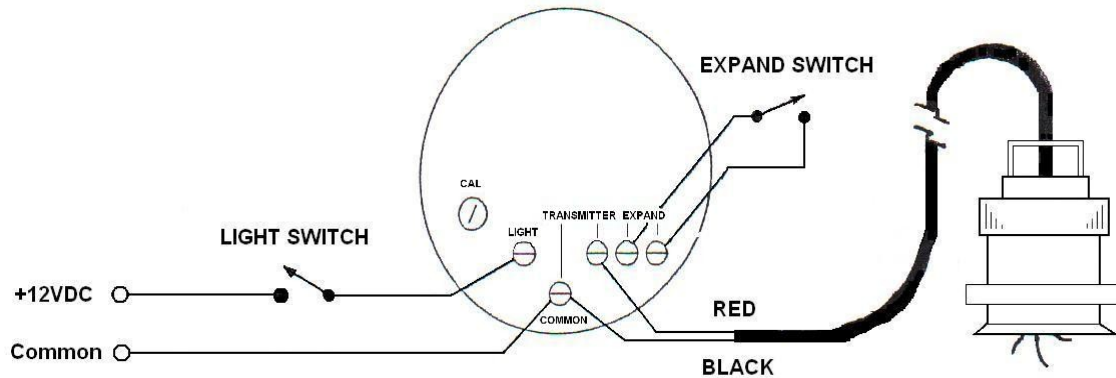

Figure 3
It is recommended that you temporarily hook up your SR MARINER equipment before installation so you become familiar with its connections and system performance. DO NOT CUT ANY CABLES, but connect according to wiring diagram (fig.3). Spin the paddlewheel on the transducer to activate the knotmeter. If all functions perform satisfactorily, proceed with installation. If the system fails to perform, check all connections. If system still fails to perform check with your dealer for advice and/or replacement if needed.
2. Connect the transmitter wires to the display unit as shown in figure 3.
3. If you choose to connect night lighting, simply connect your +12 volt D.C. wire as indicated in figure 3, and install a SPST switch on the positive (+) line to complete the circuit and turn on the lights.
1. Your instrument is factory calibrated to read knots, however, if you need to recalibrate you must first remove the plug from the holes marked CAL. (fig.3)